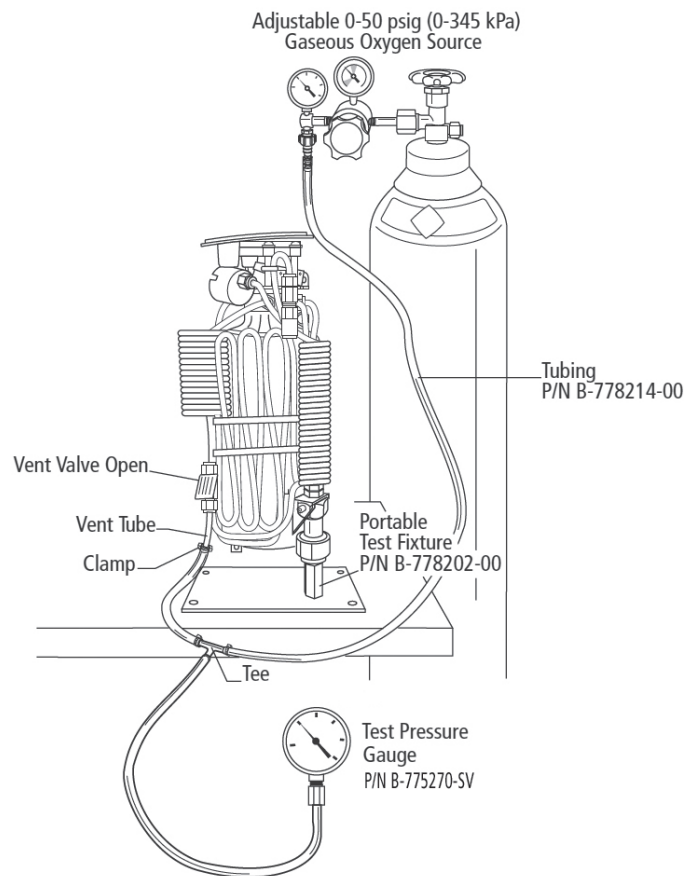

Figure 9: Pressurizing the Companion Portable
- 3) Pressurize the C1000/T portable to approximately 1.52 bar (22 psi) with gaseous oxygen using the portable pressurizing setup and gaseous oxygen supply (Figure 9). Close the vent valve after pressurizing the unit and remove the pressurizing setup from the vent tube.
- 2) Connect the pressurizing setup to the C1000/T as shown in Figure 9.
- 2) Connect the pressurizing setup as shown in Figure 9.